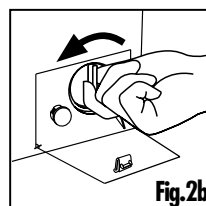

Fig.2b
2. Remove the filter by turning counterclockwise (Fig. 2b).